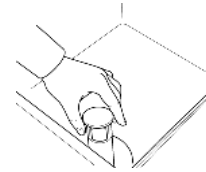

Fig.14
- 1- Open the door and verify all internal components including the water flow device are in the correct position(Fig.14)